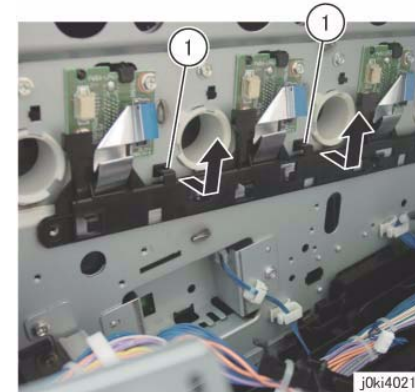

Figure 9 Remove the LPH Cable Assembly
15. Remove the LPH Cable Assembly. (Figure 9)